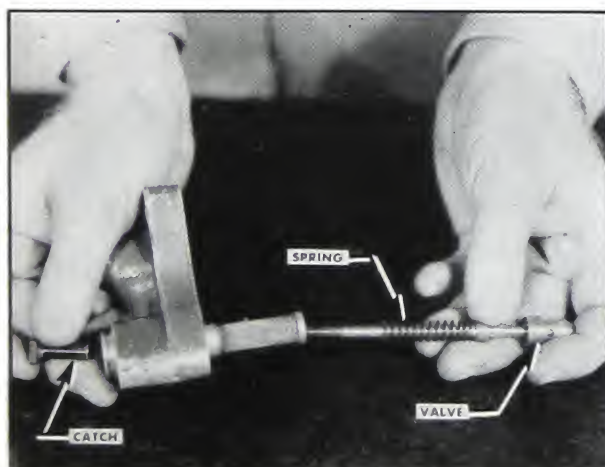

Fig. 5-258. Replace valve assembly
5. Slide the valve spring over the valve stem and insert the valve catch through the housing "O" ring. Coat catch with oil or Lubriplate so it will slip through the "O" ring easily. Screw the valve into the catch until $7/32$ inch protrudes from the catch. Fig. 5-258.